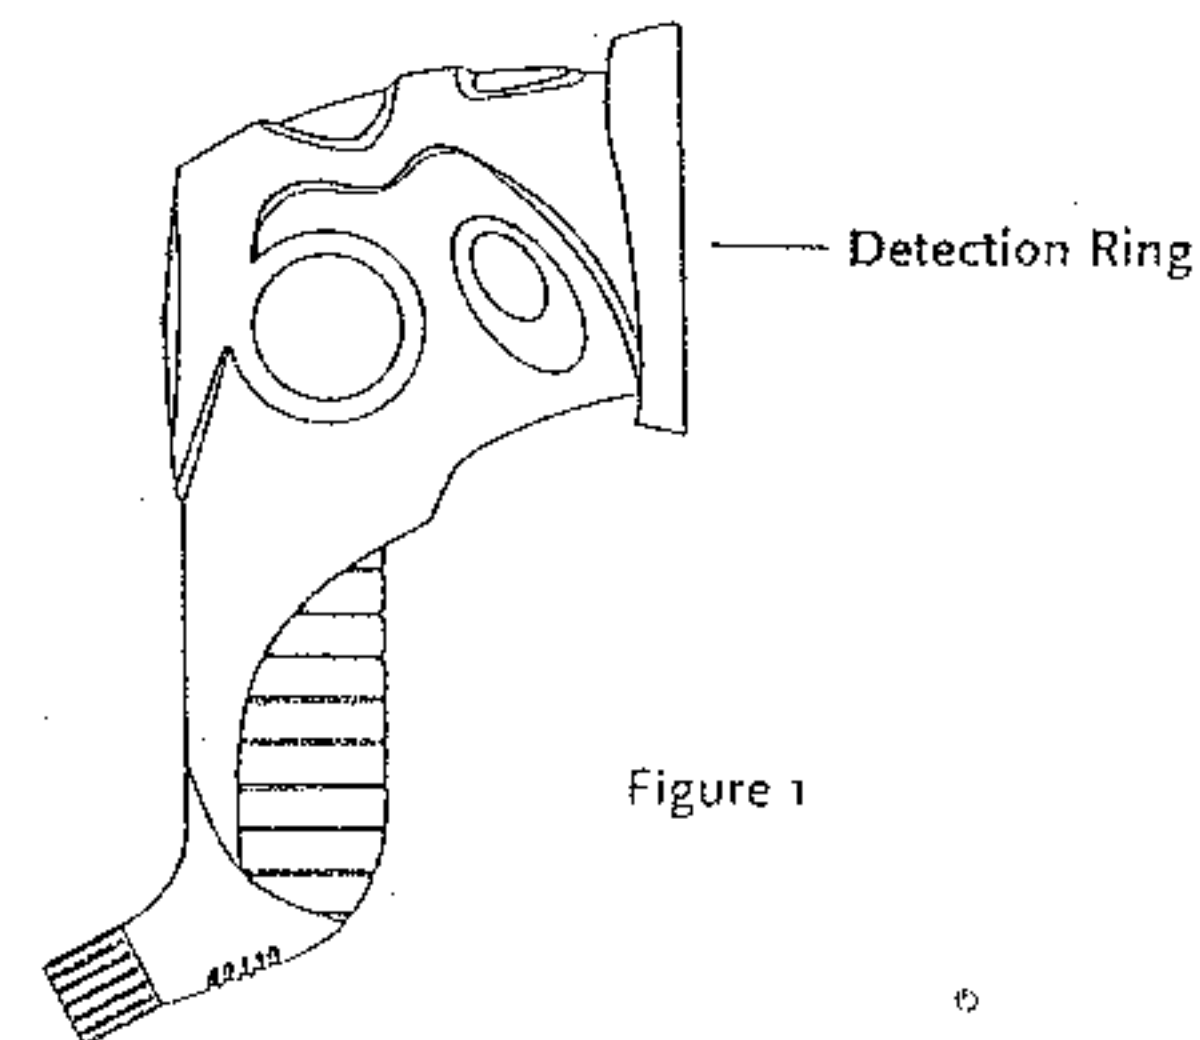

Figure 1
- A hand-held scanner to detect metal. (Figure 1)